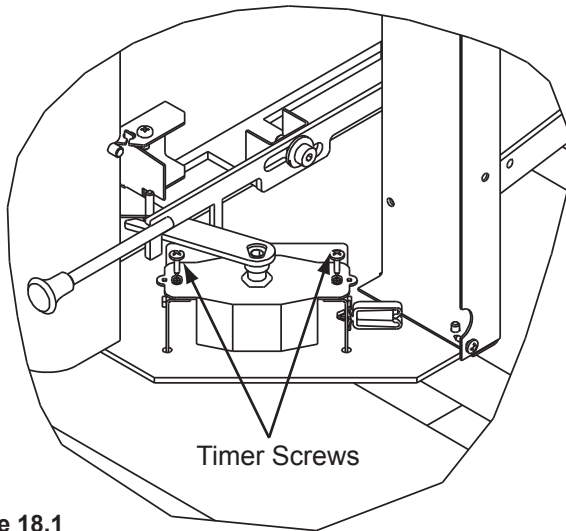

Figure 18.1
2. Remove the 2 screws holding the timer assembly in place and remove the timer (**Figure 18.1**).